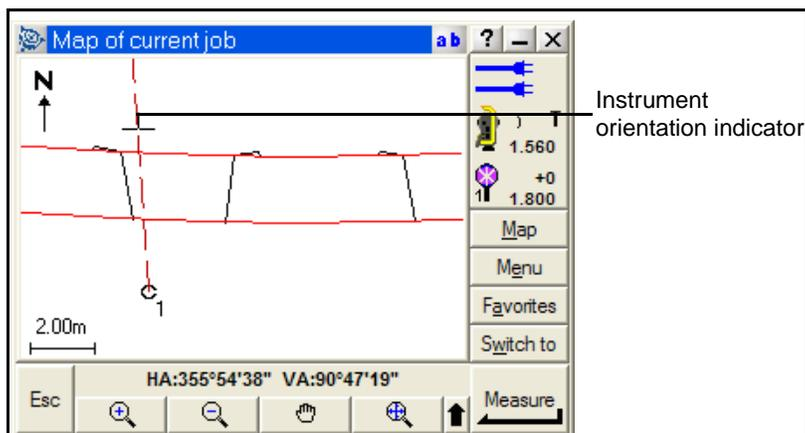

Figure 1.14 Display of current position
- b. Tap to zoom into the current position. The current position is displayed by a cross on the map with the orientation of the instrument indicated by the red dotted line. See Figure 1.14.